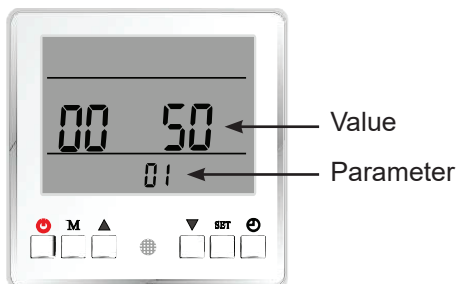

Figure 7-14 Advanced Mode Menù
- c.- Once the password values have been entered, press “SET”, the display will appear as in Figure 7-14;